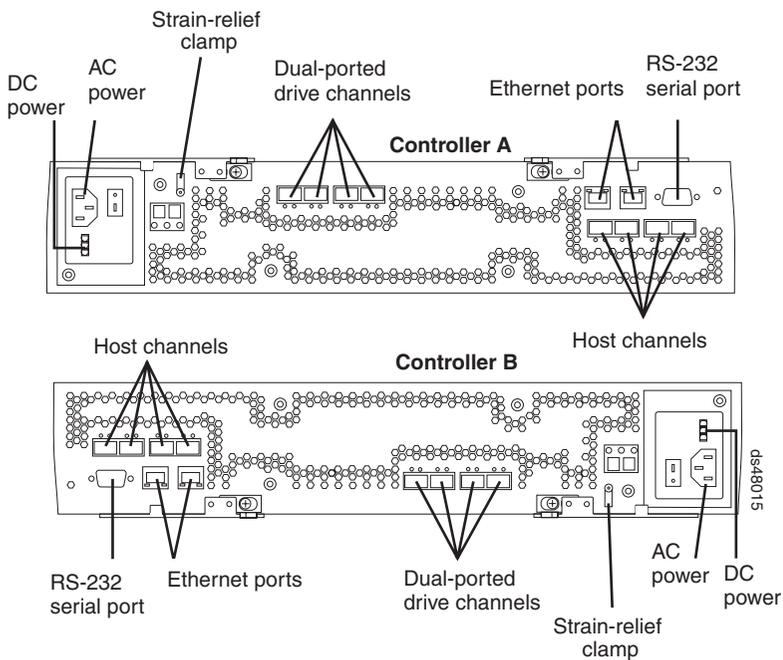

Figure 6. Controller connections
- Disconnect all attached interface cables from controller A (top controller), including the SFP modules. Ensure that you label all cables so that you can reconnect them correctly to the new controller. Figure 6 shows the location of the connectors on the back of a controller.